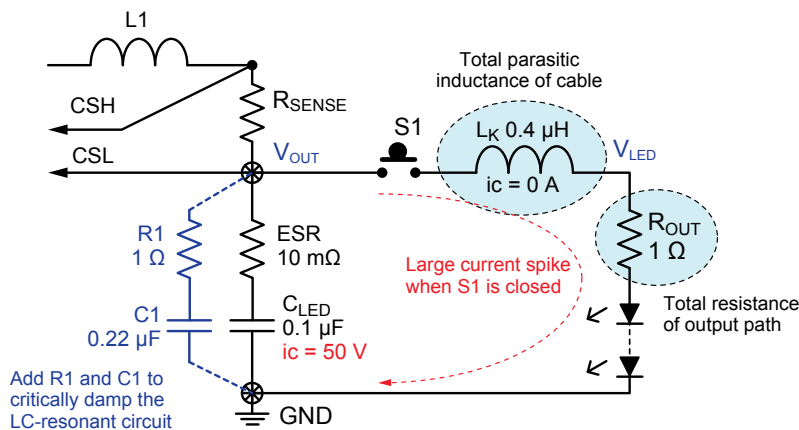

Figure 26: Countermeasure to Prevent V_{OUT} Oscillation During Output Intermittent Open/Short Fault
- Critically damp the output LC-resonant circuit, as shown in Figure 26. The drawback is additional power loss during PWM dimming operation (since C1 is charged and discharged through R1 during each PWM cycle).